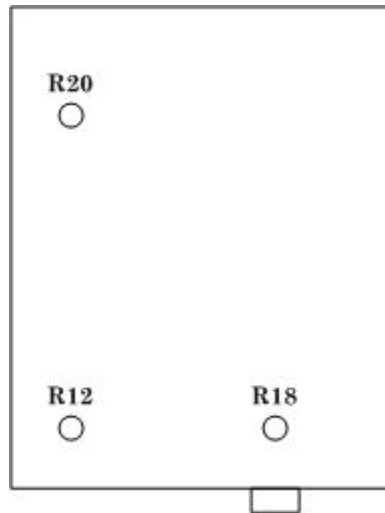

Figure 2. Test instrument - top view.
(1) Adjust R12 (fig. 2) until TI meter indicates within **CAL** marking (R).
(2) Adjust **COARSE** and **FINE** controls until TI meter indicates 100 mW. Adjust R20 (fig. 2) until the two horizontal lines displayed on oscilloscope coincide (R).
If balance cannot be attained, adjust R20 for minimum separation of horizontal lines. Then adjust **COARSE** and **FINE** controls until horizontal lines coincide. Adjust R18 (fig. 2) until TI meter reads exactly 100 mW (0 dB).
(3) Using variable attenuator and RF power amplifier output level control, reduce the power meter indication exactly 8 dB from indication recorded in **a** (7) above.
(4) Adjust **COARSE** and **FINE** controls until the two horizontal lines displayed on oscilloscope coincide. Adjust R18 (fig. 2) until TI meter indicates - 8 dB below 100 mW (R).
(5) Repeat (2) through (4) above while adjusting R20 and R18 for best in tolerance condition.